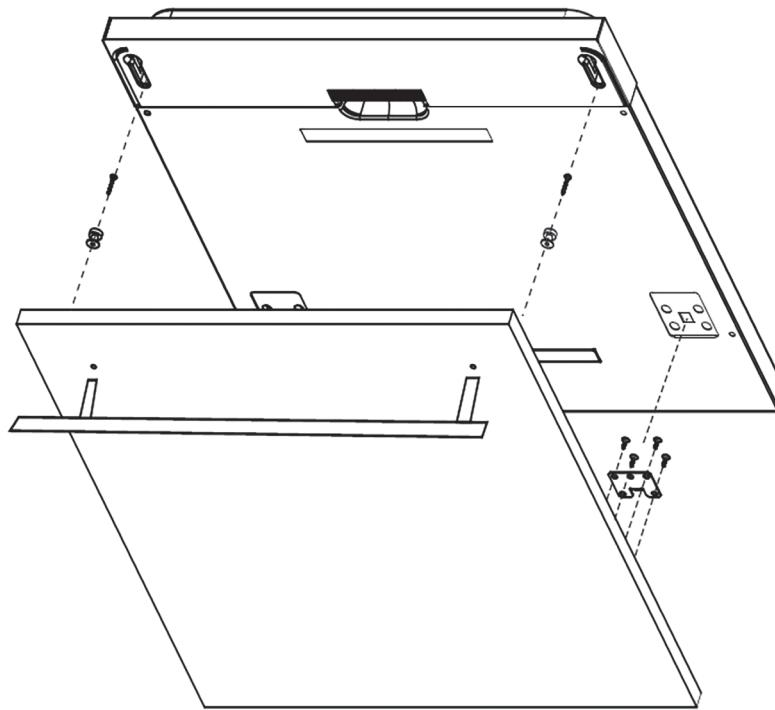
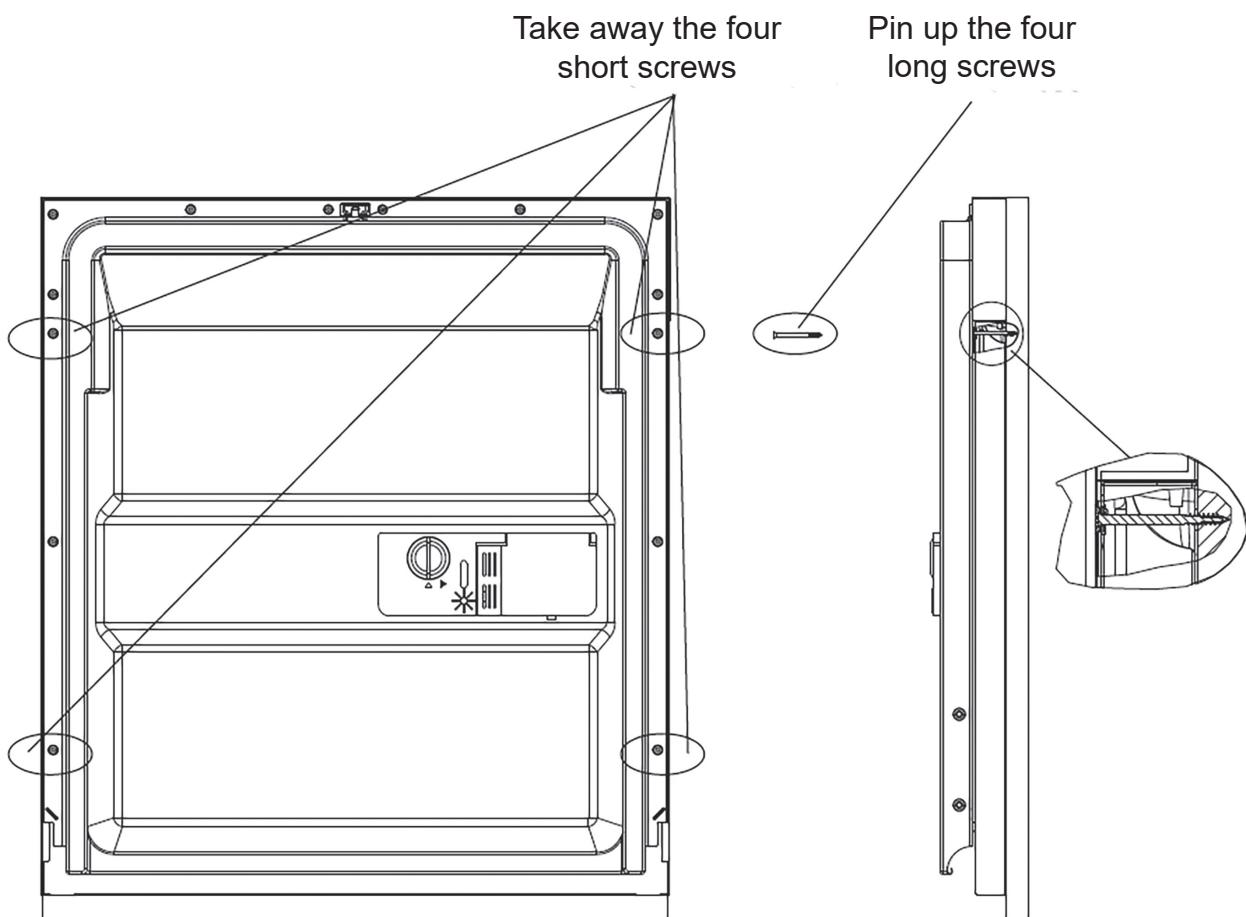

Figure 4a
Figure 4b
- Install the hook on the aesthetic wooden panel and put the hook into the slot of the outer door of dishwasher(see figure 4a). After positioning of the panel , fix the panel onto the outer door by screws and bolts(See figure 4b) .